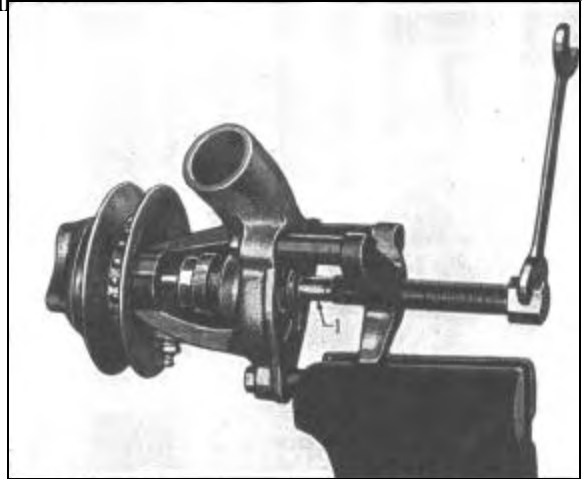

Figure 507—Pressing Shaft Out of Impeller
7. Assemble large pilot (1) to end of screw. Tighten screw and force shaft through impeller. Remove impeller and shaft. Figure 507.